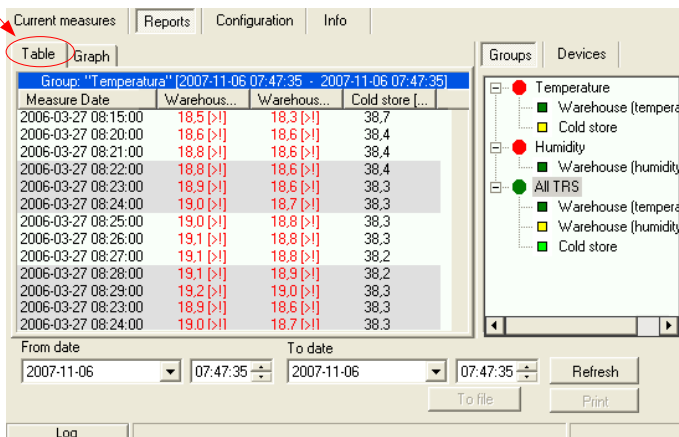

Figure. 4.14. Reports - Table tab
The **Table** tab (Figure. 4.14) is used for printing information concerning recorded measurements (e.g. temperature, humidity) in the form of a table for one of the groups or a particular measurement device selected by the user (for more information on groups see 4.5 section, at page 35). This tab also enables the export of data to text format files. The exported file is formatted in a way allowing the transfer of data to a calculation sheet.
- click appropriate tab **Groups** or **Devices** (Figure. 4.14),